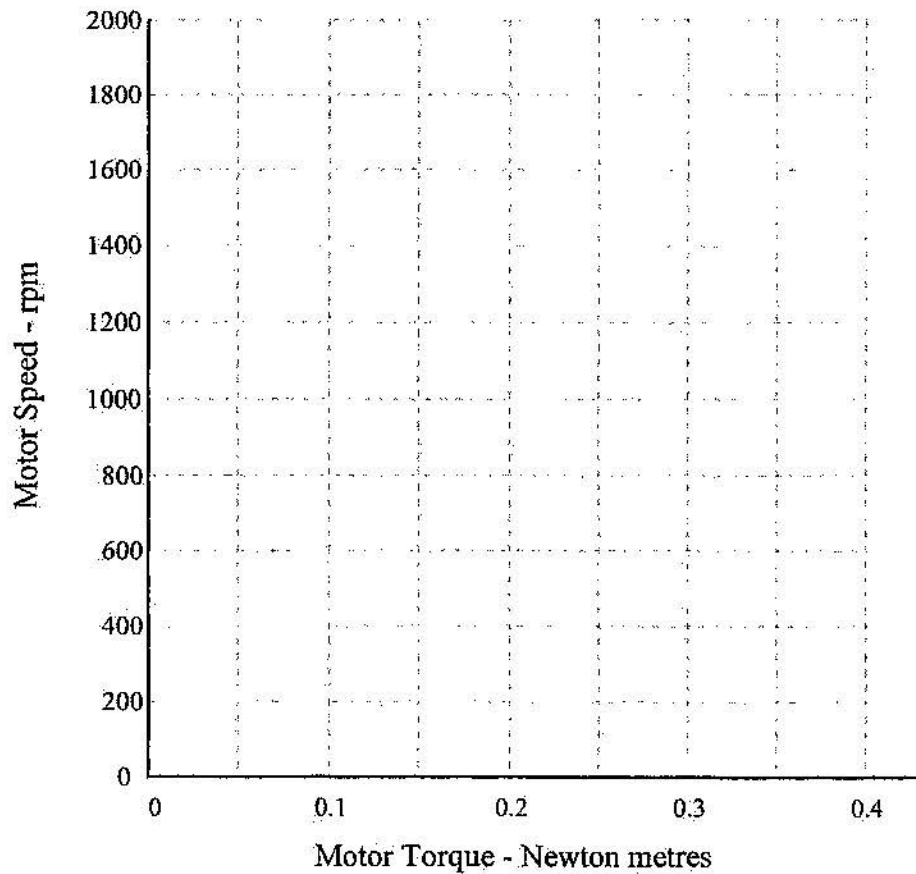

Figure 4
4. On the axes of figure 4, plot the speed-torque characteristics for each of the motors tested.